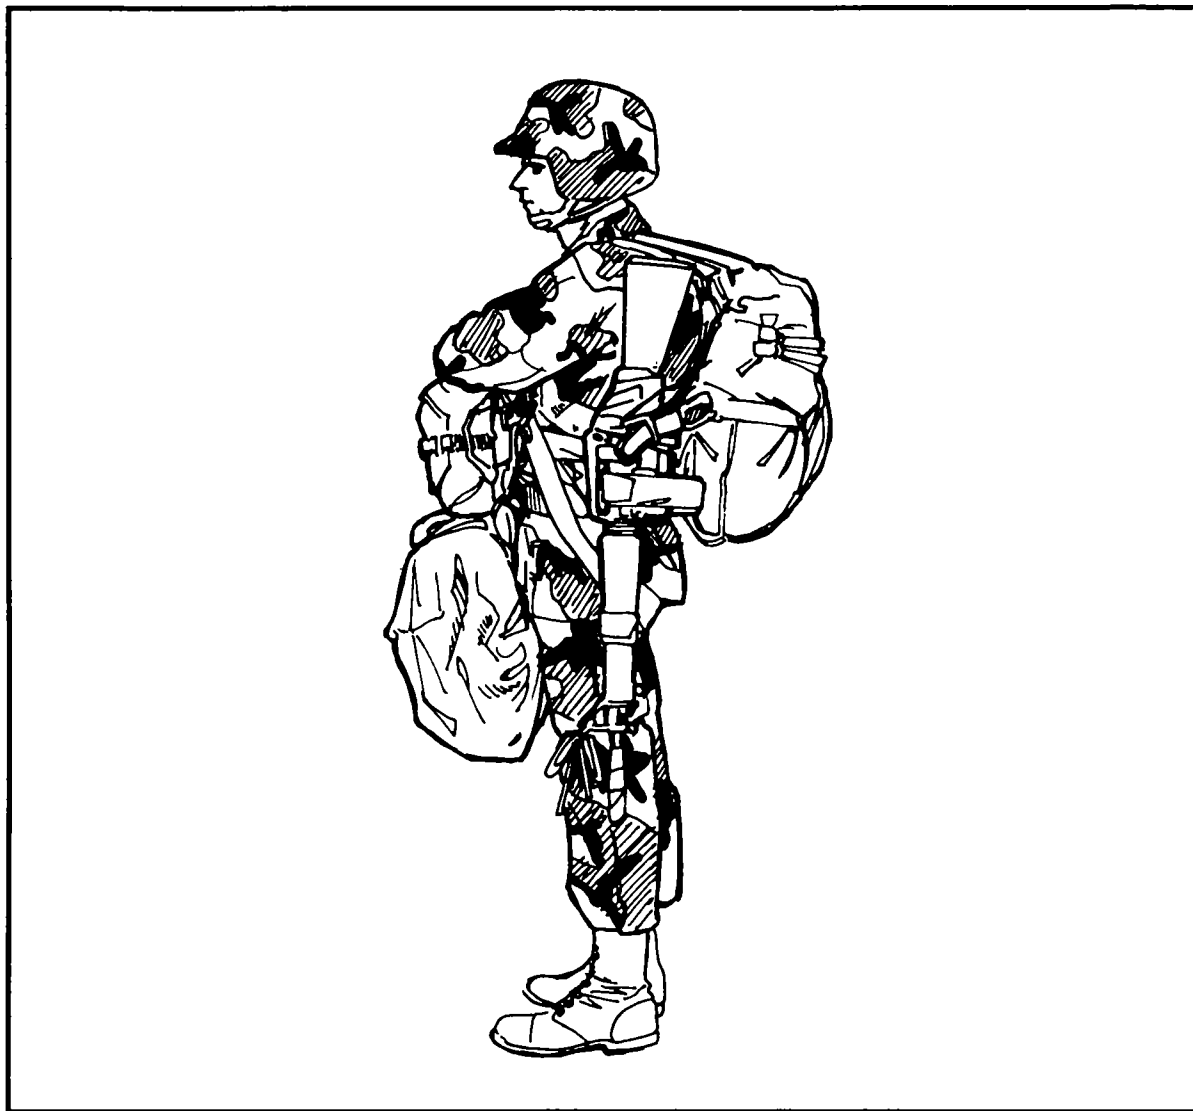

Figure 6-17. Rifle positioning, muzzle down.
c. Sling the weapon over the left shoulder with the muzzle down and rotate so that the pistol grip is facing to the (parachutist's) rear (Figure 6-17). Place the sling from the lower keeper (stock) on the outside of the stock and over the left shoulder. Then